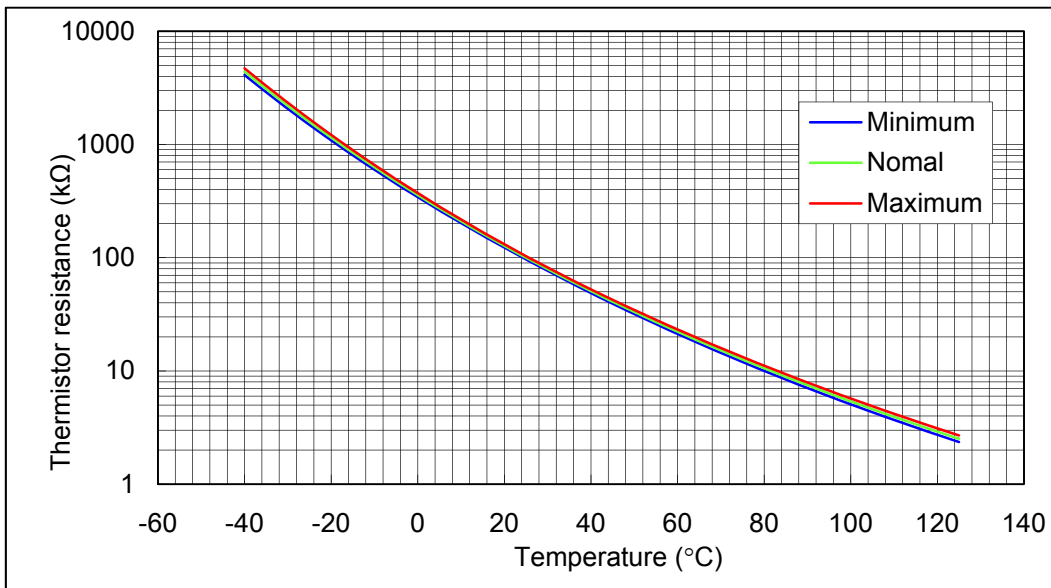
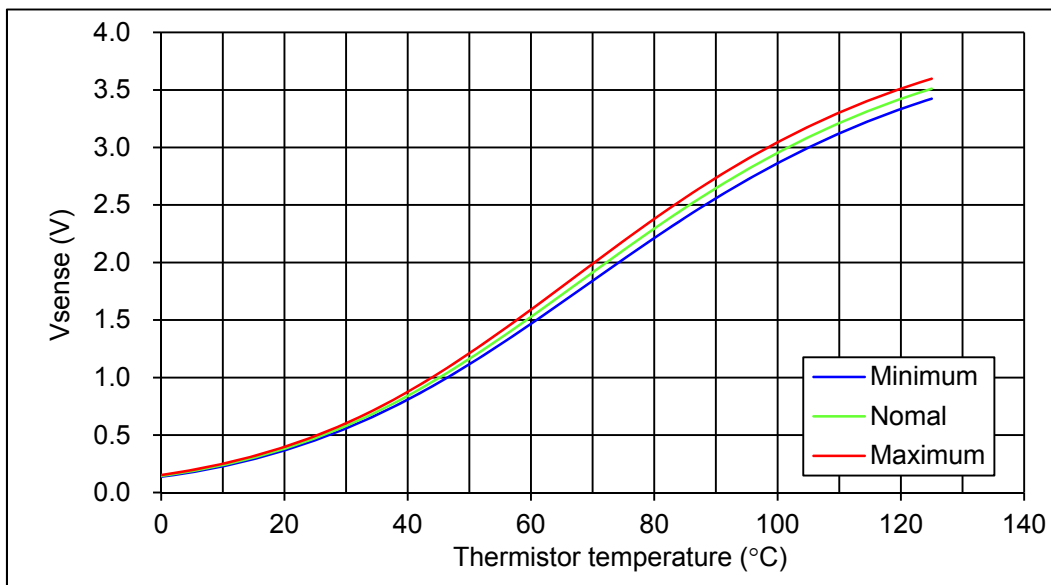
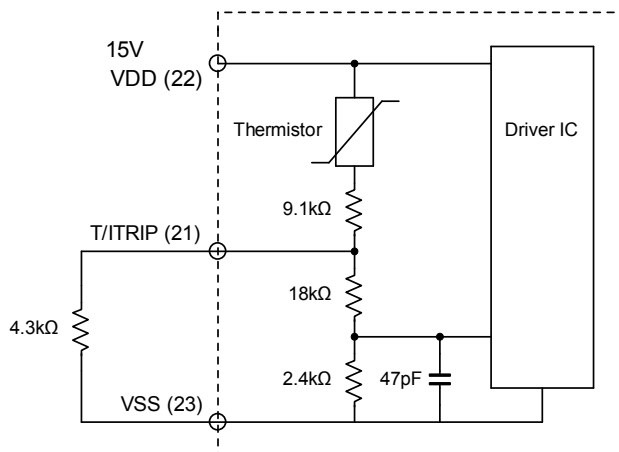

Fig. 10 Variation of thermistor resistance with temperature
Fig. 11 Variation of temperature sense voltage with thermistor temperature by using external bias resistance of 4.3 kΩ ±1% and VDD = 15 V
Fig. 12 Sample application circuit for temperature monitoring
- Inside the IPM, a thermistor used as the temperature monitor is connected between V_{DD} terminal and T/ITRIP terminal, therefore, an external pull down resistor connected between the T/ITRIP terminal and V_{SS} terminal should be used. The temperature monitor example application is as follows, please refer the Fig.10, Fig.11, and Fig.12 below.